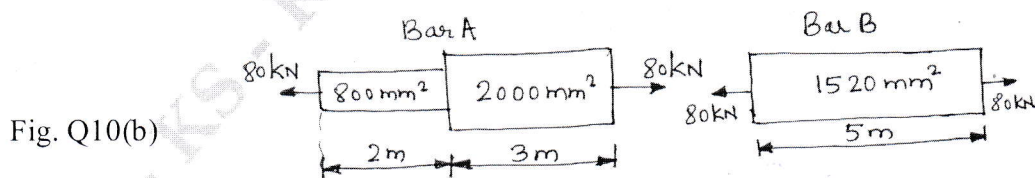

Fig. Q10(b)
- b. Calculate the strain energy stored in a bar shown in Fig. Q10(b), subjected to a gradually applied axial load of 80kN. Compare this value with what obtained in uniform bar of same length and having the same volume, when subjected to the same load. $E = 2 \times 10^5\text{N/mm}^2$. (10 Marks)